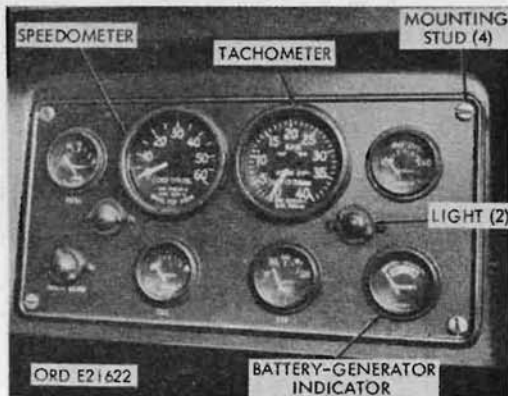

Figure 162. Instrument cluster, front view - multifuel
a. Instrument Cluster. The instrument cluster (fig. 162 or 163), held on the instrument panel by four quick-disconnect mounting studs, holds the battery-generator indicator, fuel gage, water temperature gage, oil pressure gage, air pressure gage, speedometer, tachometer, two instrument cluster lights, and the headlight beam indicator light. The instruments are bolted or screwed to the instrument cluster. Electrical connections are through cable connectors. A flexible shaft, from an angle-drive joint on the transfer, connects to the speedometer. A flexible shaft from an angle-drive joint on the distributor drive shaft (if tachometer is used on the gasoline engine) or the front of the timing gearcase (multifuel engine) connects to the tachometer. The instrument cluster lights are controlled by a switch. The headlight beam indicator is controlled by a dimmer switch. Two models of temperature gages are in use on these trucks. Each type must be used in conjunction with its matching temperature gage sending unit.
125. Instrument Cluster (Fig. 162 or 163)
127. Instrument Cluster Lights and Headlight Beam Indicator (Fig. 162 or 163)